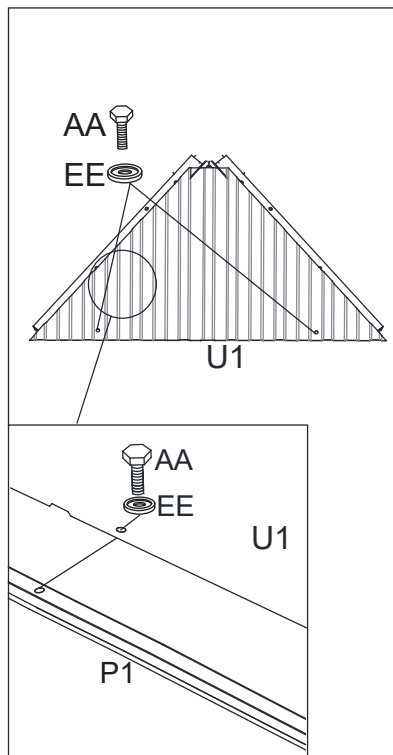

Figure 11-1
11.1: Attach Roof Vent Panel (U1) to the Roof Vent Frame and secure to Short Side of the Roof Vent (P1) using Bolt (AA/EE). See Figure 11-1.